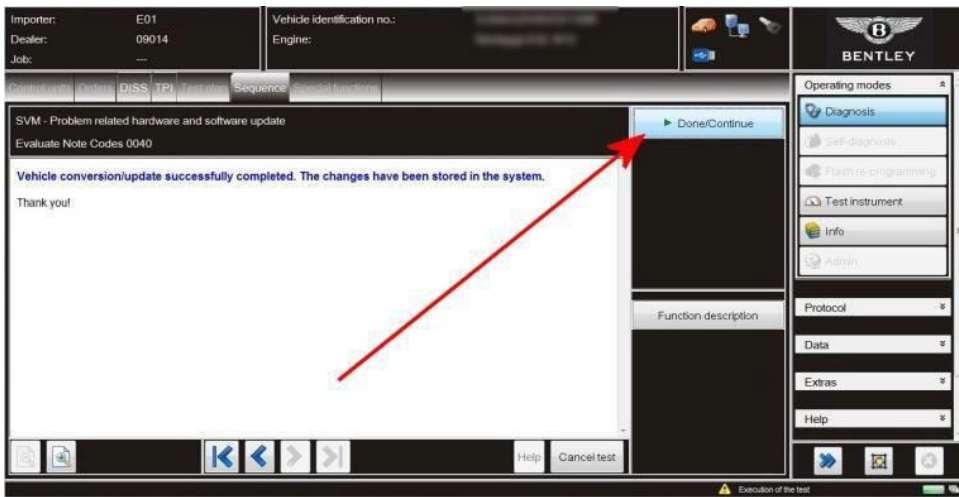

Figure 5
- Follow the onscreen instructions until the update is completed, on completion the screen in Figure 5 will be shown, press the Done/Continue button